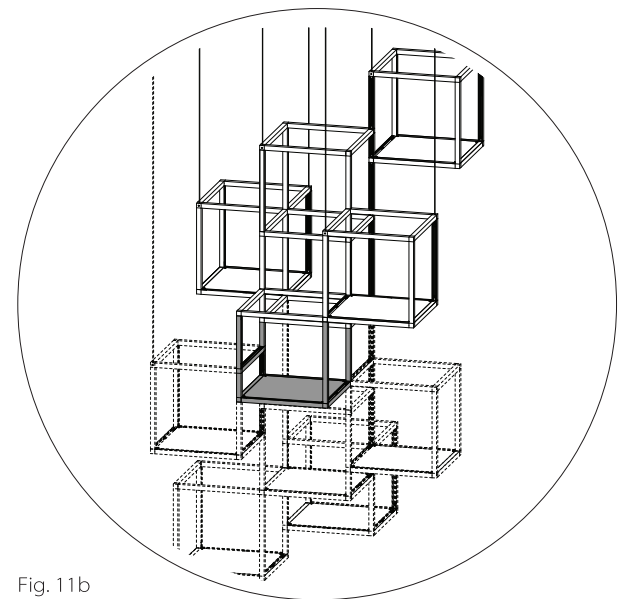

Fig. 11b
- 9b. Section as part of whole assembly shown in Fig. 11b.